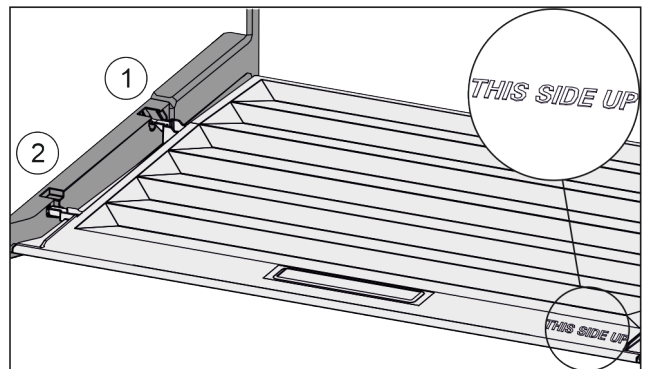

Fig. 42
- ▶ Insert the lip of the cover over the opening of the rear bracket Fig. 42 (1) and click into place Fig. 42 (2).